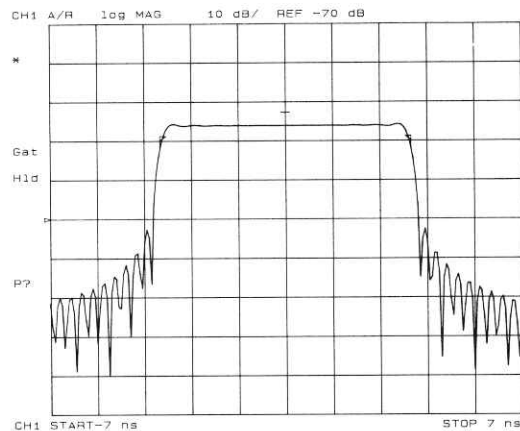

Figure 8-16. Gate Shape
**Setting the Gate.** Think of a gate as a bandpass filter in the time domain (Figure 8-16). When the gate is on, responses outside the gate are mathematically removed from the time domain trace. Enter the gate position as a start and stop time (not frequency) or as a center and span time. The start and stop times are the bandpass filter  $-6$  dB cutoff times. Gates can have a negative span, in which case, the responses **inside** the gate are mathematically removed.